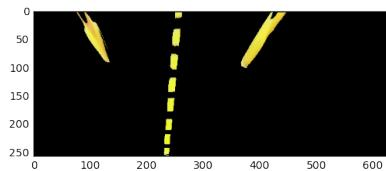
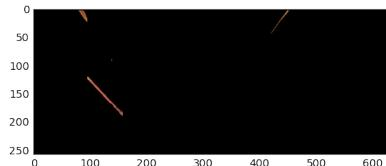

Figure 13.6. Yellow filtered image
Figure 13.7. Orange filtered image
3. Then we transform the given RGB picture into the HSV colorspace and apply the yellow and orange filter. While a HSV image is hardly readable for humans, it is way better to filter for specific colors. The obtained pictures can be seen in Figure 13.6 and Figure 13.7. The color filter operation is performed by the cv2 function `cv2.inRange(im_test, self.lower_yellow, self.upper_yellow)` where lower_yellow and upper_yellow are the thresholds for yellow in the HSV color space.